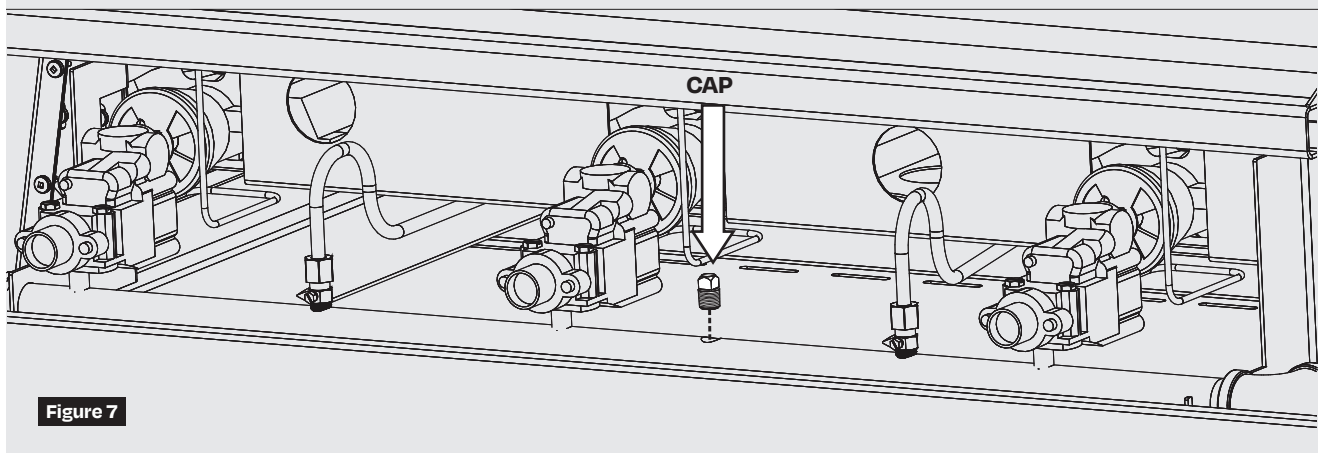

Figure 7
2. Unscrew the cap on the gas manifold and screw on the pressure gauge. **(Figure 7)**